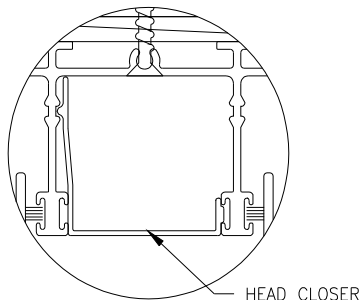

Figure 28:
6. Install head closer(s) into the head except where the closer interferes with sliding panel(s) (Figure 28).